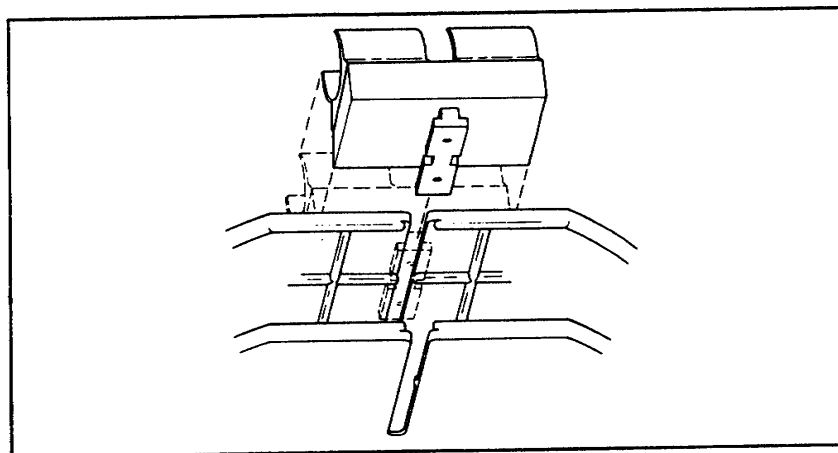

Figure 14 - Installing the probe storage clip
4. Tighten the two screws securing the probe storage clip in place. (See Figure 14.)